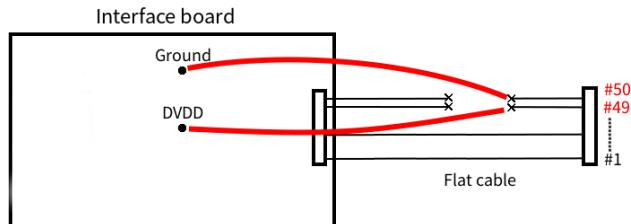

Figure 1.28: How to connect the #49 and #50 wires to the DVDD and Ground pins.
8. Connect wire number 50 of the flat cable (it is white in our case) to any ground pin on the interface board. You have to connect the “ASU end” of the wire to ground in a similar way as shown in Figure 1.28 for the case of cable 13.
9. Connect wire number 49 of the flat cable (it is blue in our case) to the DVDD pin on the interface board. The DVDD pin is located near the M9 chip that you just desoldered. You have to connect the “ASU end” of the wire to the DVDD pin in a similar way as shown in Figure 1.28 for the case of cable 13.